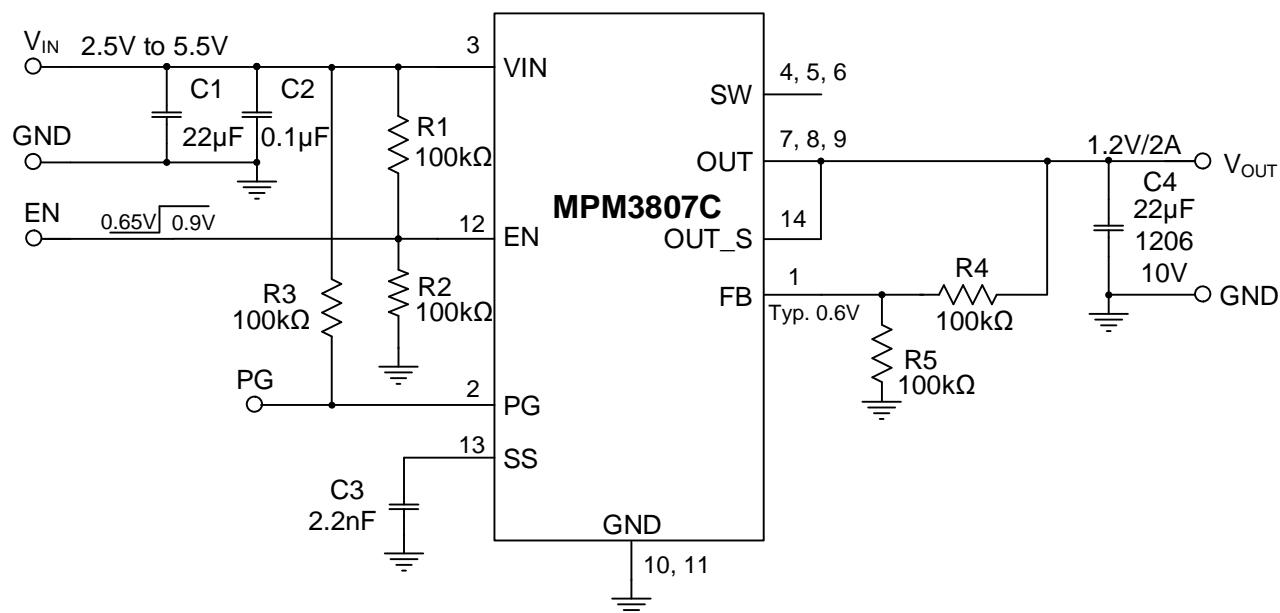

Figure 9: Typical Application Circuit (Adjustable Output Version, $V_{OUT} = 1.2V$)
11) The recommended PCB layout is based on Figure 9.